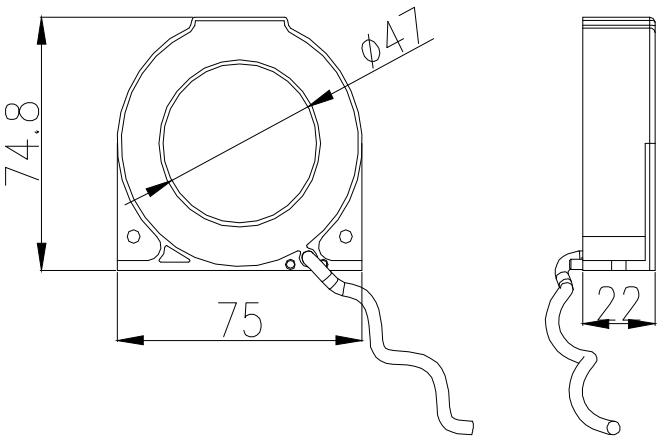

Figure 7 The external dimensions of leakage current transformer
5.3.3The external dimensions of leakage current transformer are shown in figure 7 and table 5(Unit:mm):